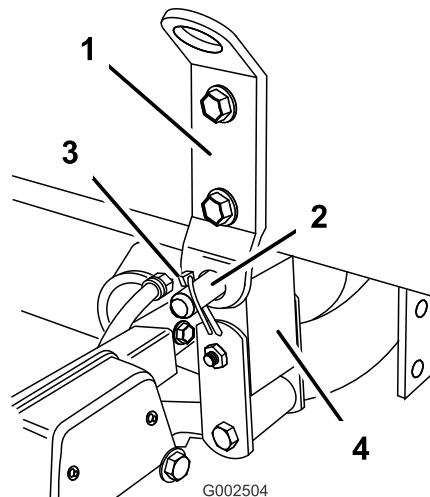

Figure 21
6. Line up the pivot lug at the rear of the tank skid assembly with the opening at the end of the vehicle frame (Figure 21).
7. Install a clevis pin (3/4 inch) and two lynch pins to the pivot lug to secure the tank assembly to frame (Figure 21).
10. Check the alignment of the tank skid and the vehicle frame. If necessary, loosen the bolts securing the pivot lug to the tank skid frame slightly (Figure 21). Raise the tank assembly just enough above the vehicle frame to be aligned and lowered into proper position. Tighten the bolts on the pivot lug once the tank skid is aligned with the vehicle frame.